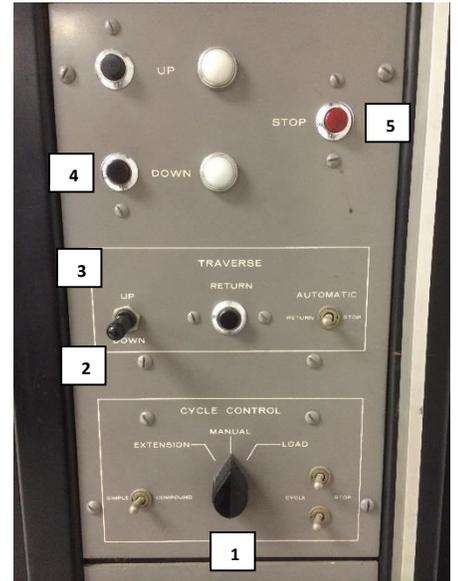

Figure 4 Instron control panel
4. Check that cycle control is turned to manual [1]. FIGURE 4